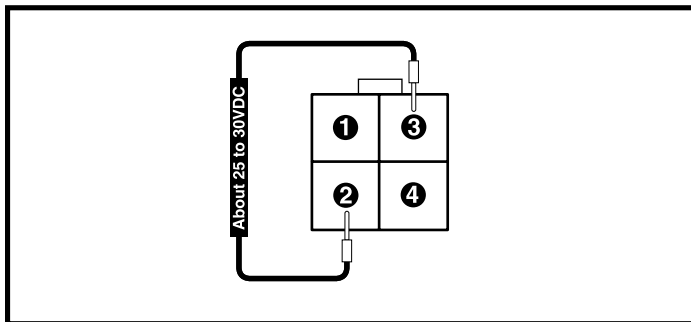

Figure 16. Connector 10b
- *If your multimeter indicates a different voltage (by at least 0.2VDC)*, then replace the battery harness (3) and retest the system.
10. Unplug connector 10b from the power module (6). See diagram 3.
11. Measure resistance across pin 2 and pin 3 of connector 10b. See figure 16.
- *If your multimeter indicates 25 — 30VDC*, then replace the power module (6) and retest the system.